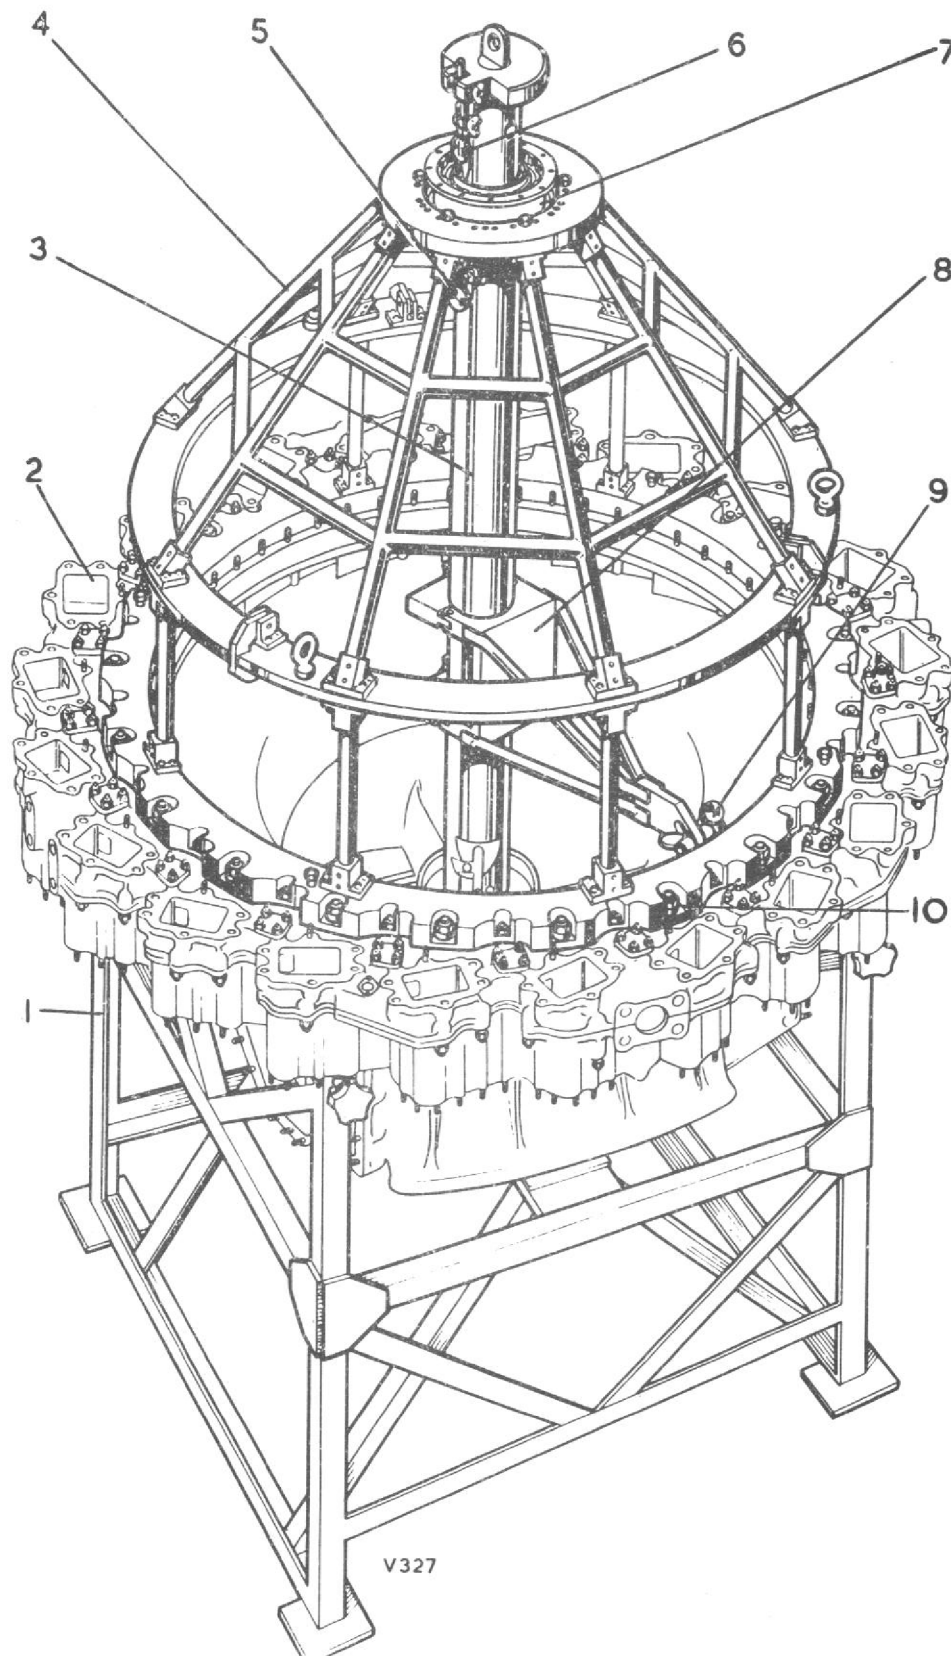

Fig. 3. Diffuser casing and dummy centre casing assembled with mandrel in position
10. A dummy centre casing and rear bearing are used to check the alignment of the assembled casings (fig. 3). The dummy rear bearing must be assembled to the bearing housing as detailed in Chapter 33A.
KEY TO FIG. 3 (V327)